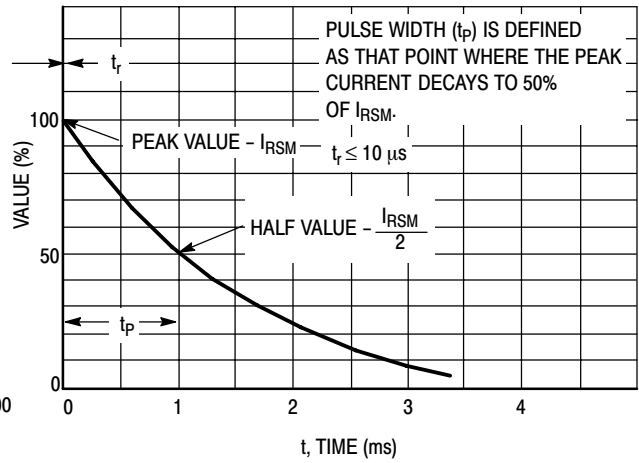
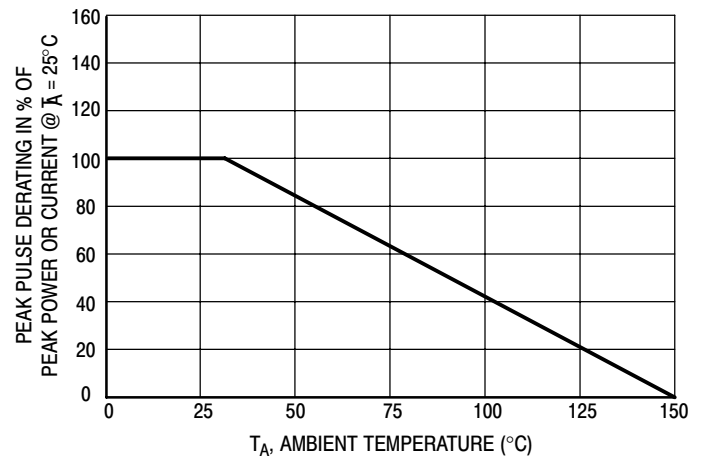

Figure 2. 10 X 1000 μs Pulse Waveform
Figure 4. Pulse Derating Curve
7. Surge current waveform per Figure 2 and derate per Figure 4.